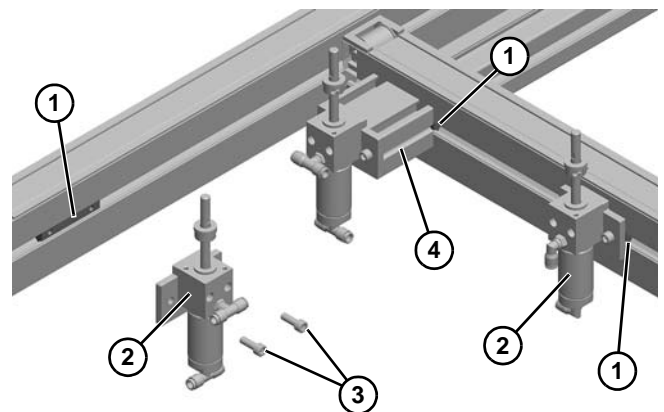

Figure 133
3. Remove socket head screws (**Figure 133, item 1**) securing cylinder assembly (**Figure 133, item 1**) to conveyor.